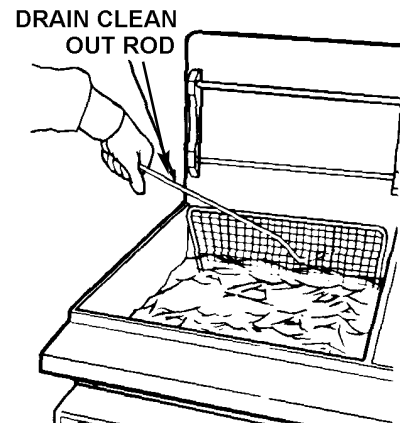

FIGURE 3.
2. Remove screen from over tubes/element with tongs or a Drain Clean Out Rod. Refer to Figure 3.